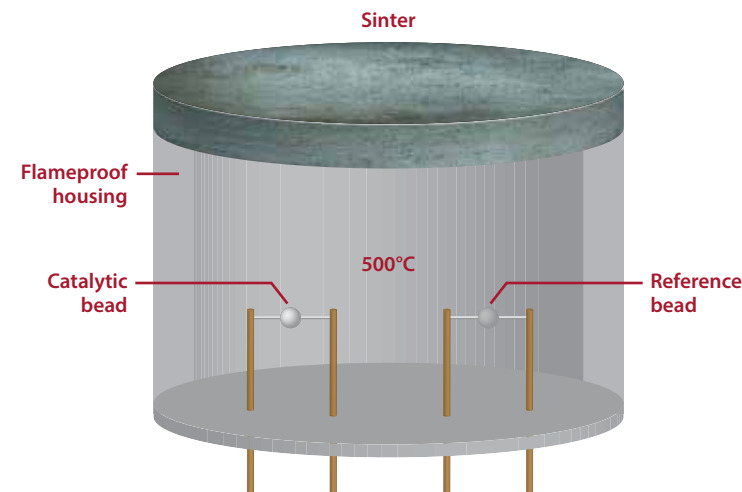
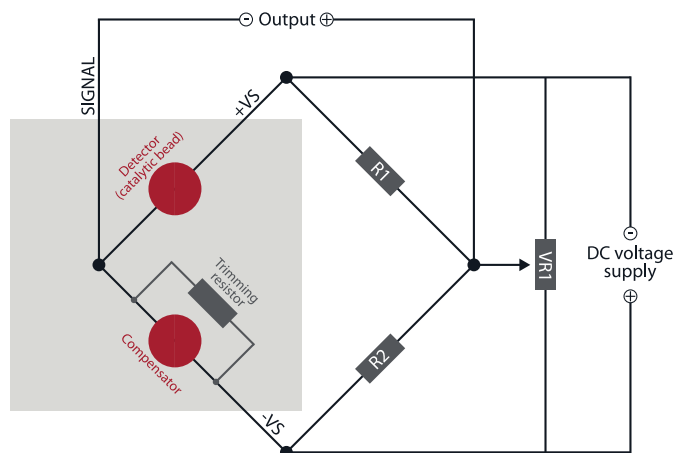

Figure 7: Pellistor sensor cutaway.
Figure 6: Wheatstone bridge circuitry diagram.
**Fundamental Operating Principle** A pellistor sensor consists of a pair of heated metal beads contained inside a flameproof housing (see Figure 7 on the right). Each metal bead contains a platinum wire coil, capable of heating the bead to a surface temperature of 500°C. These beads are placed at opposite ends of a Wheatstone bridge circuit (see Figure 6 below), which measures changes in